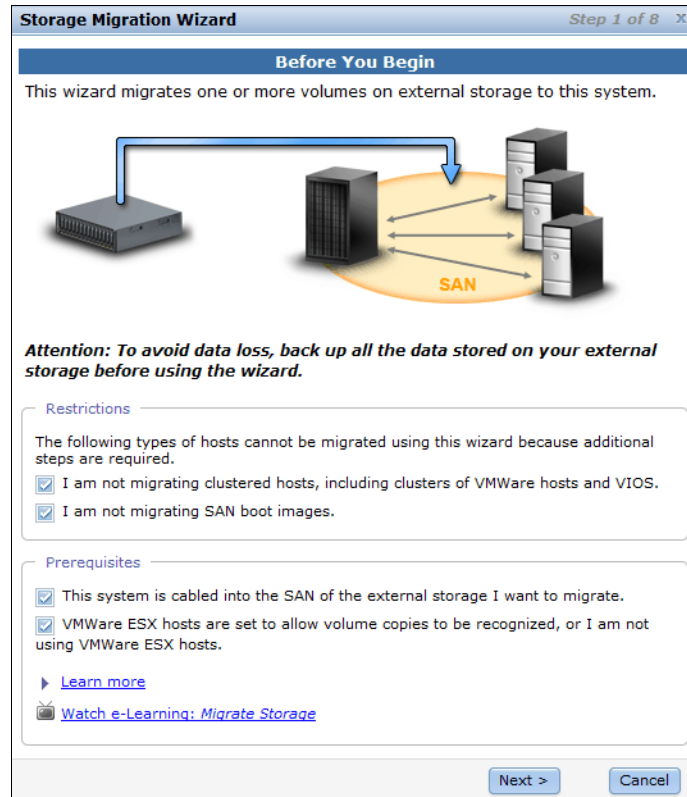

Figure 7-10 Storage Migration Wizard step 1- Before You Begin window
1. The Step 1 of the Storage Migration Wizard is to check the restrictions and prerequisites, and click **Next** as shown in Figure 7-10 on page 275.
Figure 7-10 shows there are some restrictions and prerequisites to using the storage migration wizard: